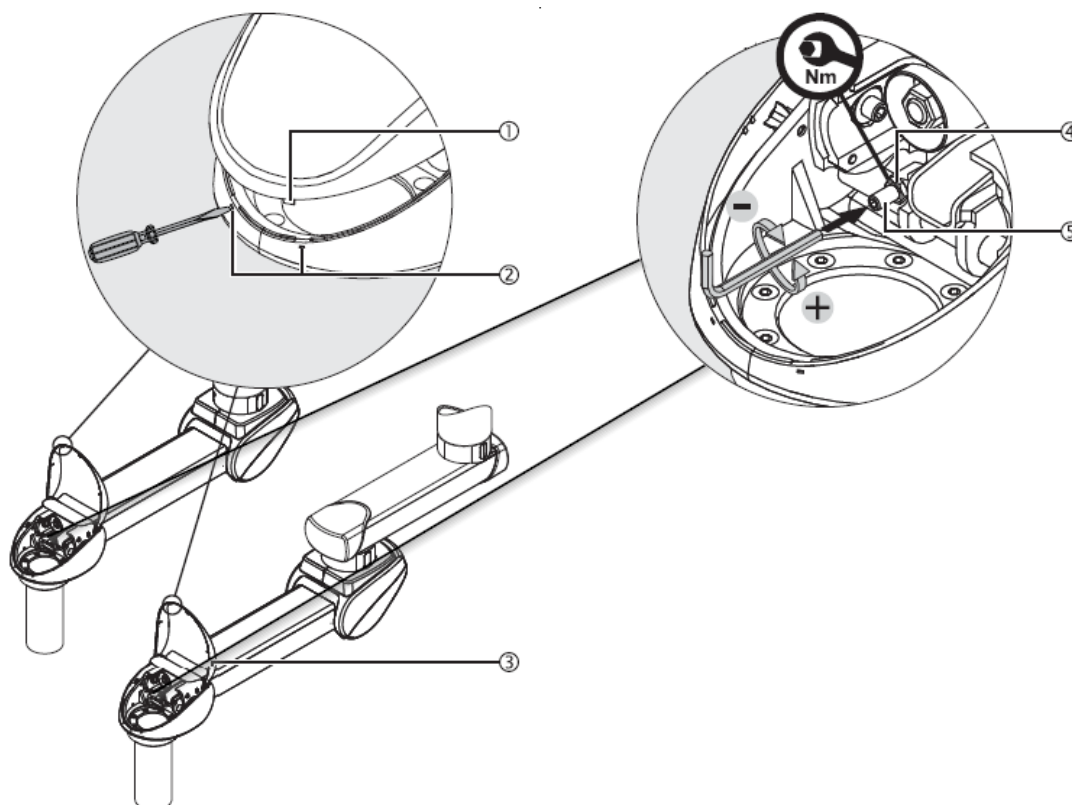

Fig.69 Adjusting the vertical lift on a spring arm
- Loosen and turn back the M12 hexagon nut (4) - ISO 4035.
- Insert the Allen key into the set screw (5).
- To reduce the vertical lift, turn the Allen key to the left (counterclockwise) as illustrated in Figure 69.
- To increase the vertical lift, turn the Allen key to the right (clockwise) as illustrated in Figure 69.
- Tighten the hexagon nut M12 ④ - ISO 4035.